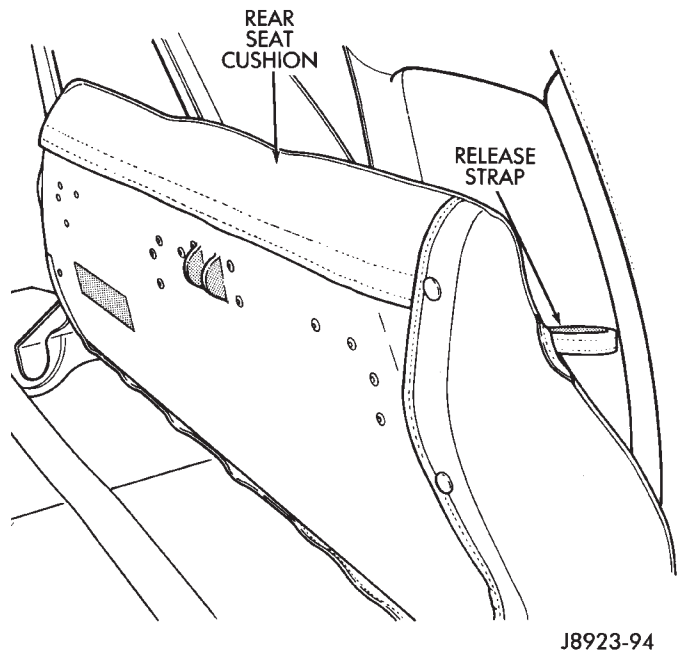
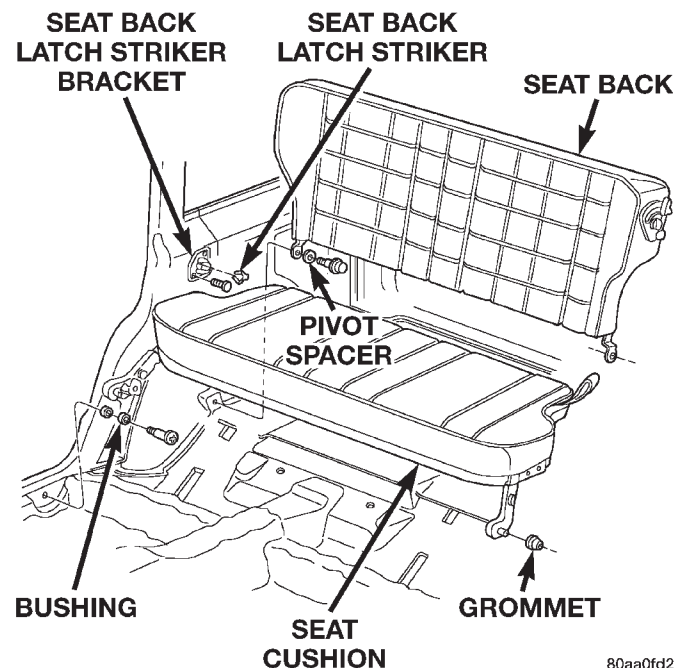

Fig. 14 Seat Cushion Release Strap
Fig. 15 Rear Seat Cushion/Seat Back
- (1) Disengage seat cushion at rear by pulling upward on release strap (Fig. 14).
- (2) Tilt seat cushion forward.
- (3) Disengage seat cushion latch with right side release lever. Separate right side latch and left side seat bracket from floor anchor bolts, and remove cushion from vehicle (Fig. 15).
- (1) Disengage the seat cushion at the rear by pulling upward on the release strap.
- (2) Tilt the seat cushion forward.
- (3) Remove the shoulder/lap belt buckles from the elastic straps.
- (4) Release the seatback latch from the striker.
- (5) Remove the pivot bolts and the washers from the wheelhouse panel anchors (Fig. 15).
- (6) Tilt the seatback forward, lift it upward and remove it from the vehicle.